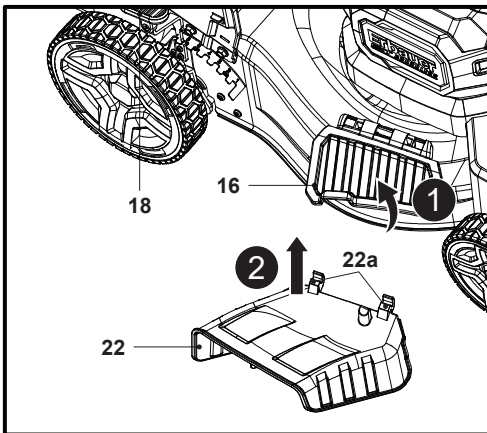

Fig. 16
1. Set the cutting height adjustment lever (18) higher than the second lowest position.
2. Rotate the side deflector guard (16) towards the motor and hold it in position (Fig. 16, step 1).
3. Align and hang the hooks (22a) of the side discharge attachment (22) onto the rods (Fig. 16, step 2).